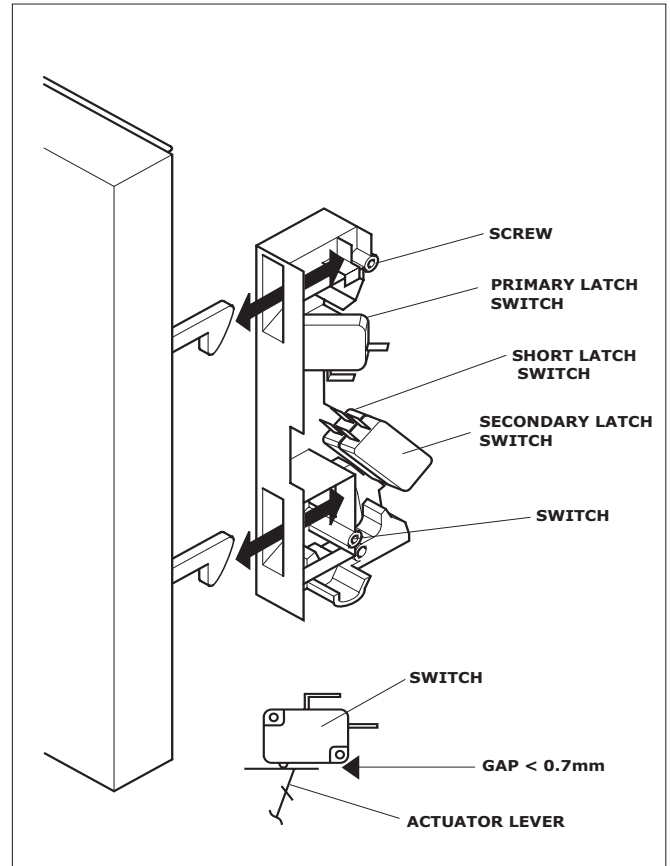

figure 17 Adjustment of latch switches
1. When mounting the primary latch-switch, secondary latch-switch and short latch-switch to the door hook assembly. Follow the instructions in figure 17.
3. When mounting the door hook assembly to the oven assembly, adjust the door hook assembly by moving it in the direction of the arrow figure 17. Ensuring the door does not have any play in it. Check for play by pulling the door assembly. Make sure that the latch keys move smoothly after adjustment is completed. Completely tighten the screws holding the door hook assembly to the oven assembly.